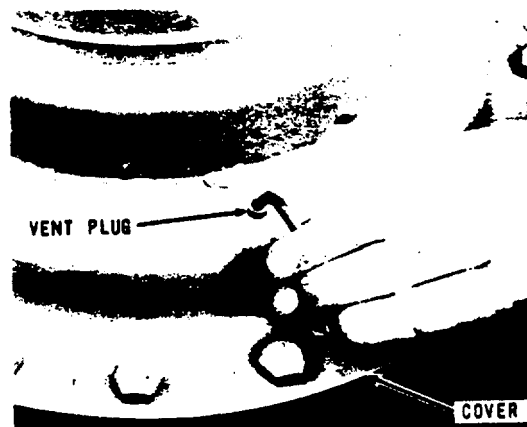

FIGURE 3 - LOOSENING VENT PLUG
2. Loosen vent plug when meter is filled with liquid, Fig. 3 (On meters so equipped).